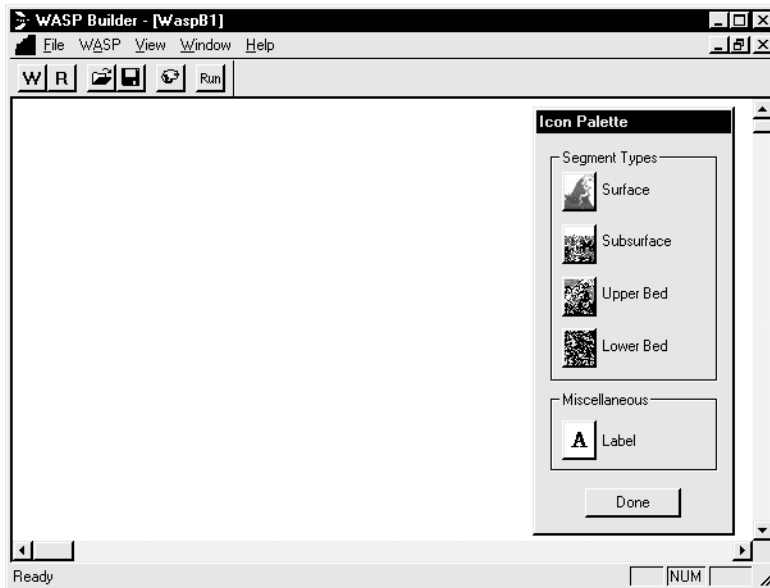

Figure 7: Building a New WASP Input File
1. Select **File > New**. The main display window will be blank and the icon palette window will open (Figure 7).